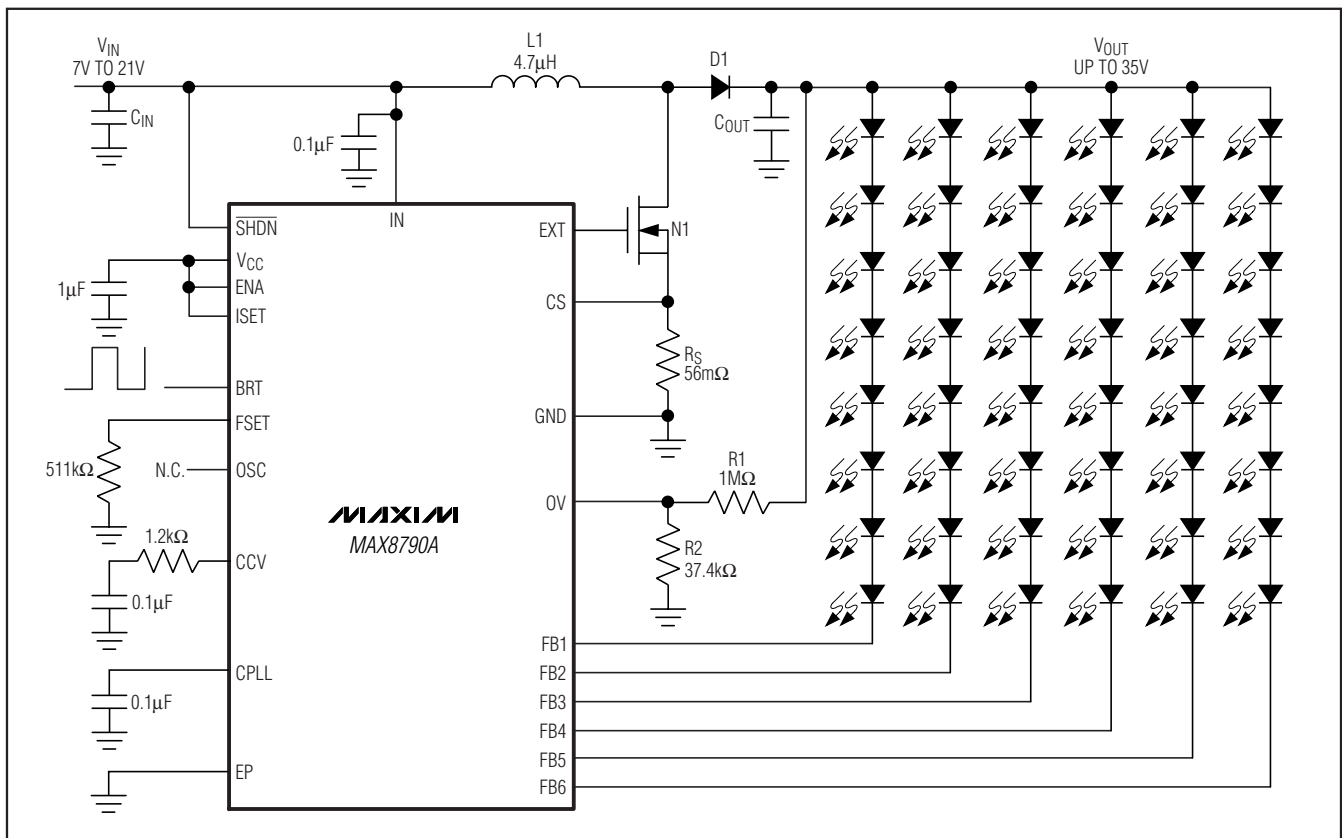

Figure 1. Typical Operating Circuit
To protect the step-up converter when the load is open, or the output voltage becomes excessive for any reason, the MAX8790A features a dedicated overvoltage feedback input (OV). The OV pin is connected to the center tap of a resistive voltage-divider from the high-voltage output (see Figure 1). When the MAX8790A is powered up, if none of the LED strings on FB1–FB6 are connected to the step-up converter output, the step-up converter regulates the output voltage to  $V_{\text{OUT}} = 1.23V(1 + R1 / R2)$ . When  $V_{\text{OV}}$  exceeds 1.23V, a comparator turns off N1. The step-up converter switch is reenabled after the output voltage drops below the protection threshold.